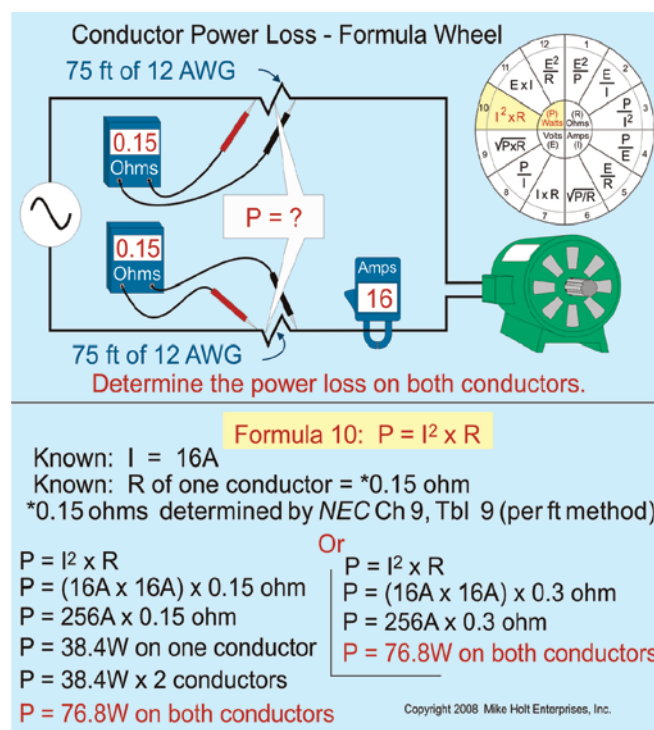

Figure 1–26
**Question:** What is the conductor power loss in watts for a 10 AWG conductor that has a voltage drop of 3 percent in a 240V circuit and carries a current flow of 24A? **Figure 1–27**